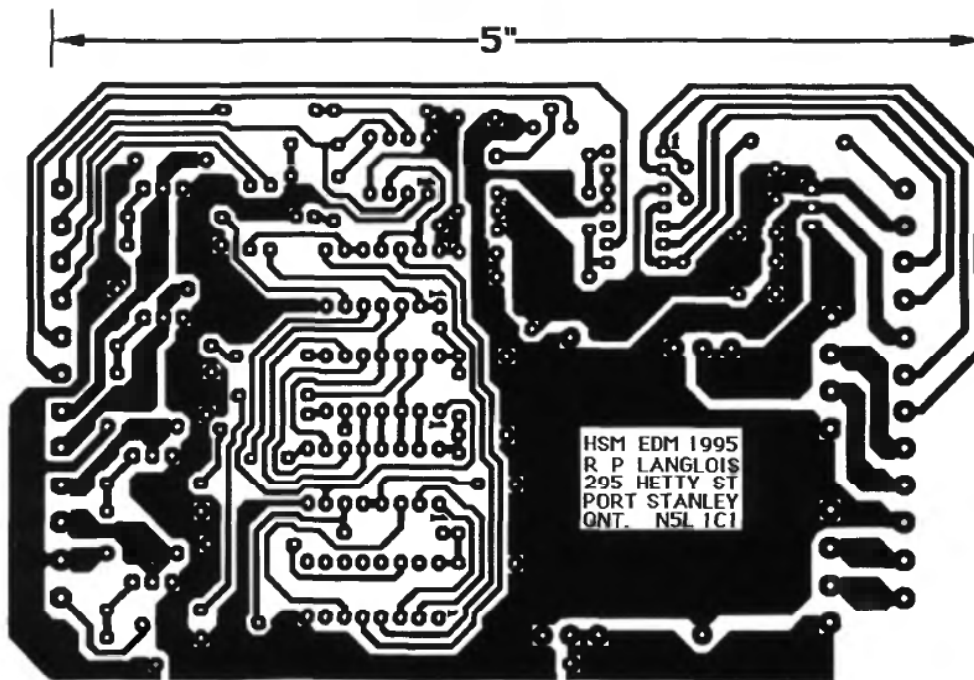

Figure 3.10
1. The printed circuit board artwork reproduced in Figure 3.10 is actual size. Take the magazine to a photo arts, printing, or graphic arts store and have them make an exact size positive transparency. The measurement marked 5" must be within $\frac{1}{16}$ " of 5".